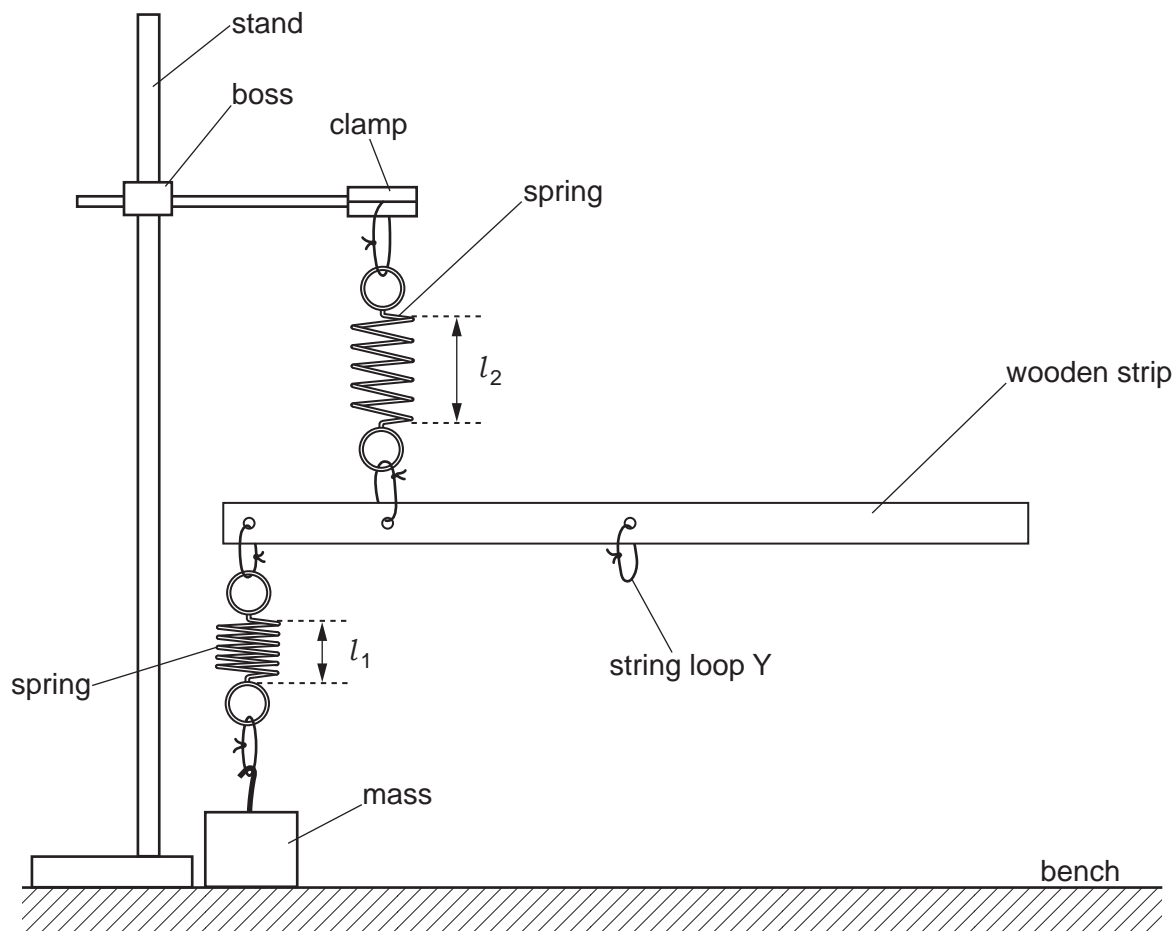

Fig. 1.1 (not to scale)
(a) (i) Assemble the apparatus as shown in Fig. 1.1, with the mass resting on the bench.
- (iii) Measure and record the lengths  $l_1$  and  $l_2$  of the coiled sections of the two springs, as shown in Fig. 1.1.